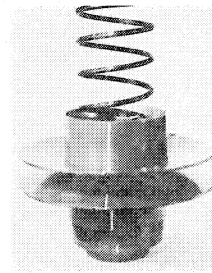

Fig. 15
9. Insert outboard spring into flange with referenced flange end down and line up match-marks. See Fig. 15.